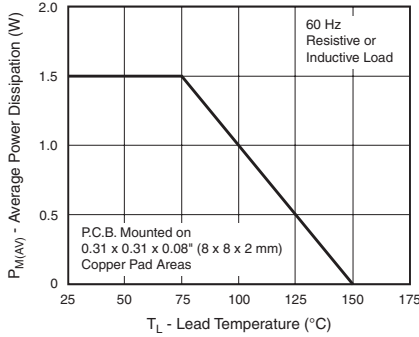

Figure 1. Maximum Continuous Power Dissipation
- (1) Suffix "A" denotes  $\pm 10\%$  and suffix "B" denotes  $\pm 5\%$
- (2) Maximum steady state power dissipation is 1.5 W at  $T_L = 75\text{ }^\circ\text{C}$  (Fig. 1)